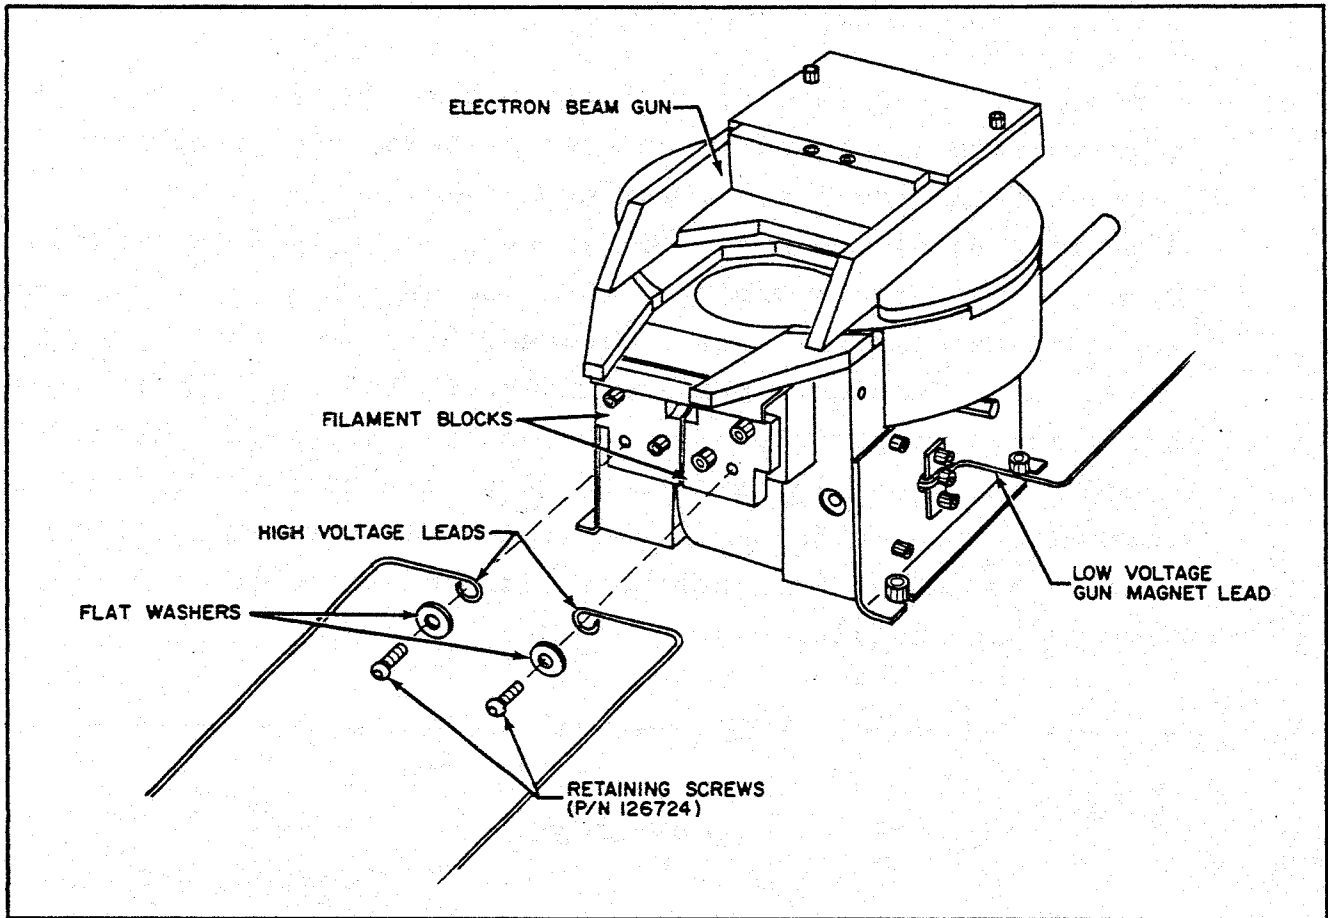

Figure 2-4. High Voltage Connections to Gun.
- (9) Connect the high-voltage leads from the high-voltage feedthrough(s) to the filament block of the gun. Bare solid #8 (3.26 mm dia.) or #10 (2.59 mm dia.) copper wire should be used to provide low resistance and adequate rigidity. The leads connect to the filament block as shown in Figure 2-4. The ends of the wires should